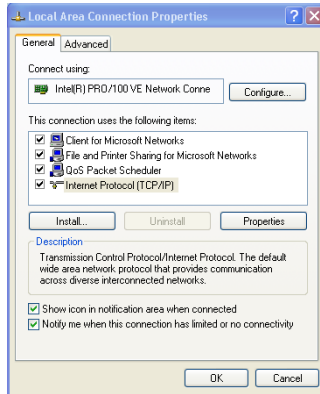

Figure 6: Local Area Connection Properties Window
4. Select **Internet Protocol (TCP/IP)** and click the Properties Button (see Figure 6).